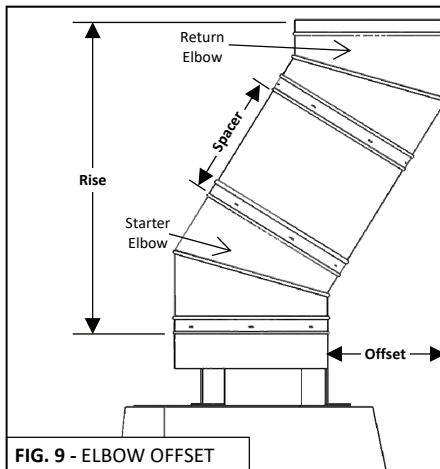

FIG. 9 - ELBOW OFFSET
13) SPACER CHIMNEY SECTION – Typically a 12” length of chimney pipe is used between the Starter Elbow and Return Elbow. Refer to Offset and Rise chart on Page 14 (FIG. 9) for offset and rise dimensions of other spacer lengths.